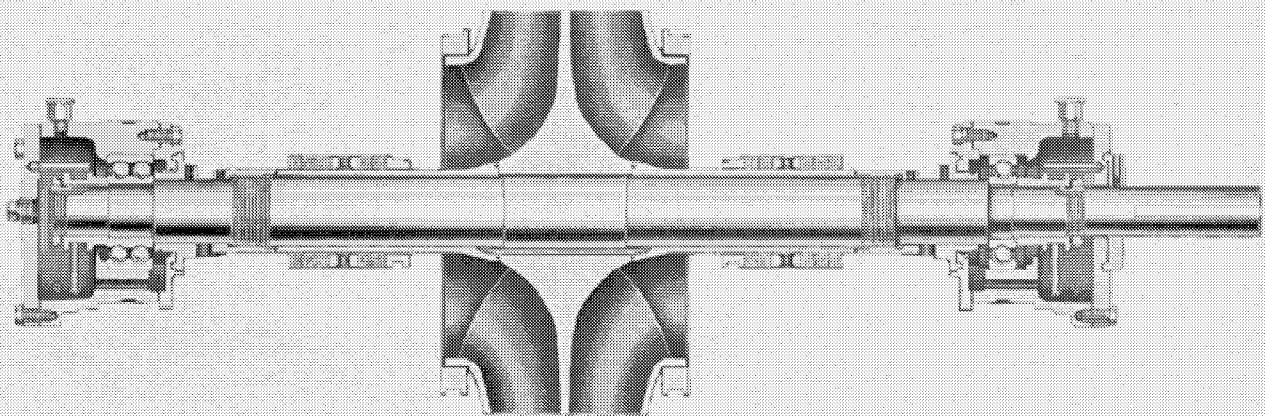

Figure 9A
5. Slide stuffing box bushings over sleeves. Position as shown in Figure 9A so that continuous "lock" is facing towards packing. If unit is equipped with mechanical seals, carefully slide the rotary portion on the sleeve and fasten securely. Check seal manufacturer's drawing for proper position. Carefully slide mechanical seal glands, with stationary seats and gaskets in place, on shaft. If unit has packing, slide the lantern rings on sleeves.